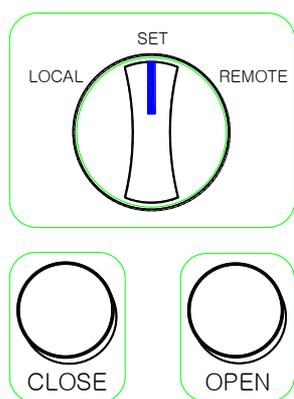

Figure 3.5 [Full Close Setting]
- 1) Set the **selector switch** on the MHPWS-QNN to **SET MODE** as shown in **Figure 3.5** and press the **CLOSE** button to ensure that the valve is fully closed.